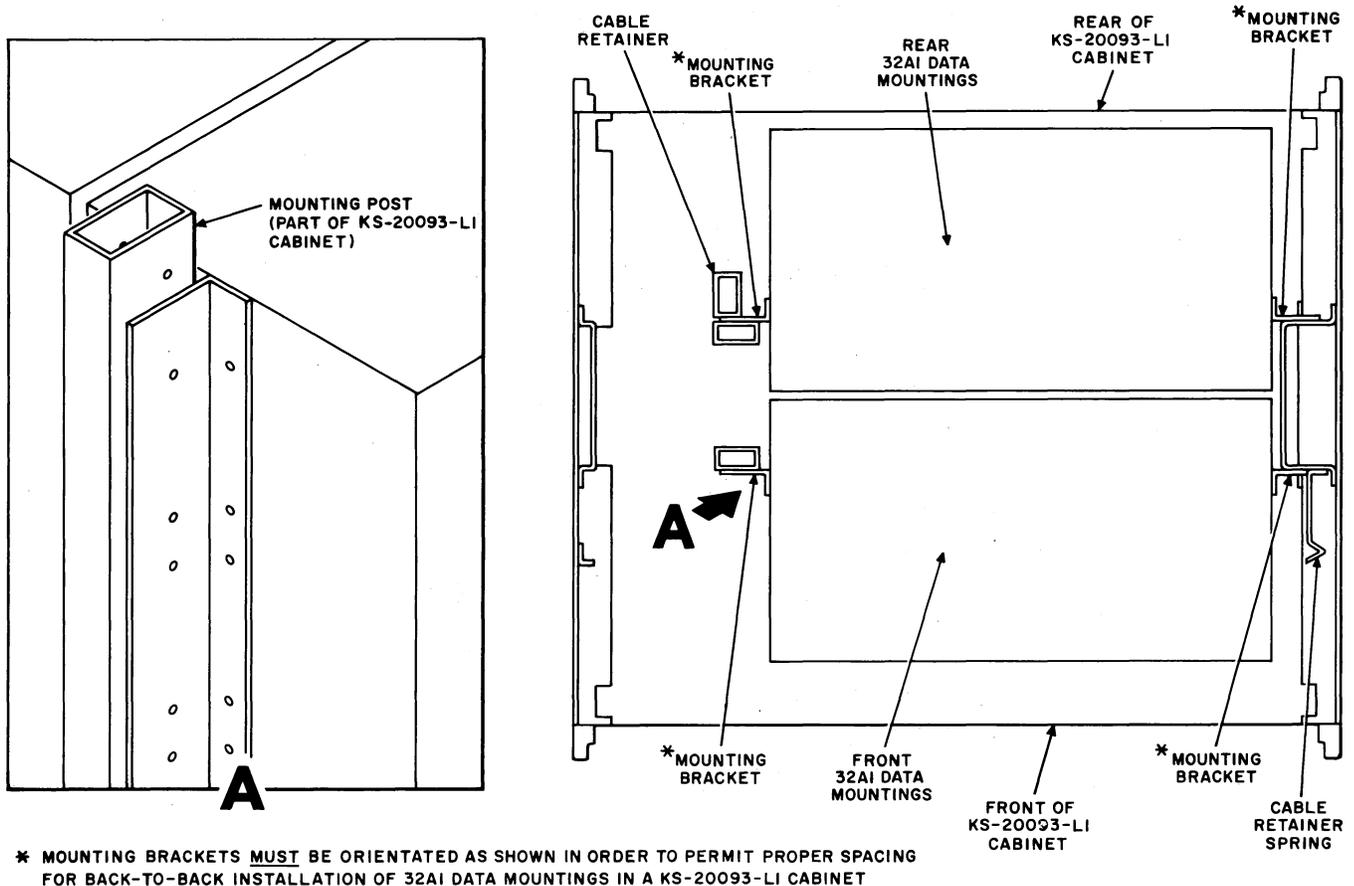

Fig. 4—Overhead View of 32A1 Data Mountings in a KS-20093-L1 Cabinet
as shown in Fig. 4, then remove the other mounting bracket and reinstall it as shown in Fig. 4.
3.04 Arrange the 32A1 data mounting to mount on 25-inch racks by placing the short side of the mounting bracket against the data mounting, the long side of the mounting bracket facing the rear of the data mounting (as shown in Fig. 4), and proceed as follows: